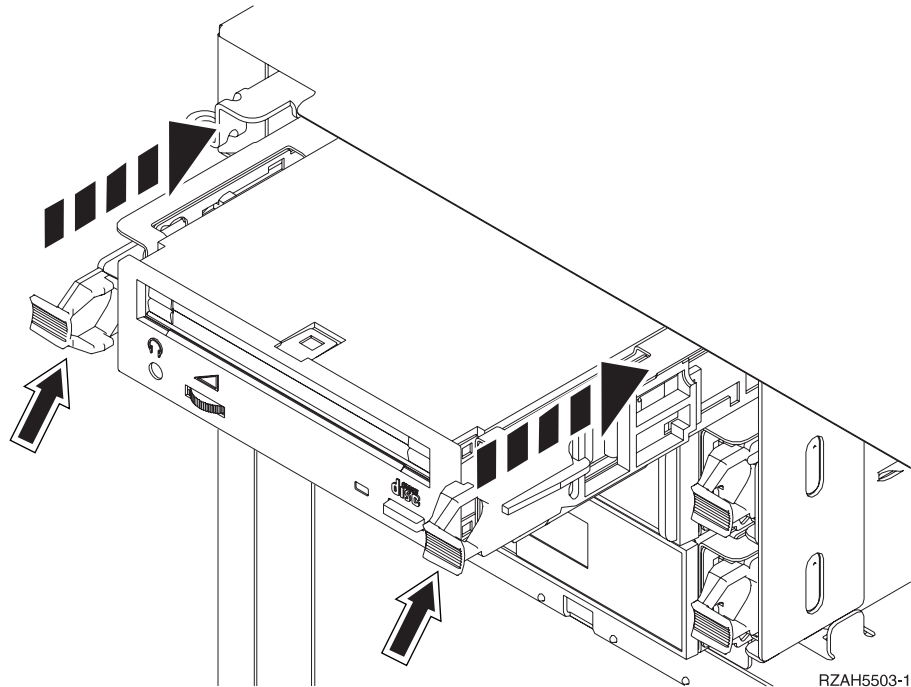

Figure 5. Installing removable media device
- ___ 4. Refer to Figure 5 on page 11 and support the bottom of the removable media device as you slide it half way into the selected position. Do not push it any further.